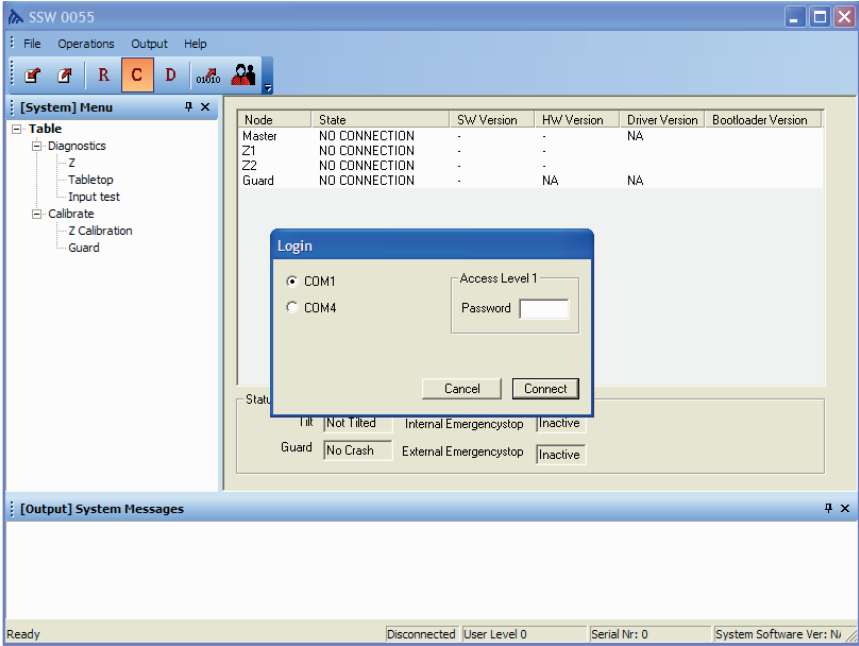

Fig. 5-153 Login
5. Connect the service cable from the lap top (PC) to the serial interface port (COM). (The service cable can be ordered as a spare part).
7. Choose COM-port and enter password. See Fig. 5-153 *Login*
8. Verify that the User Level in Fig. 5-153 *Login*, changes from 0 to 1, when entering the correct password.